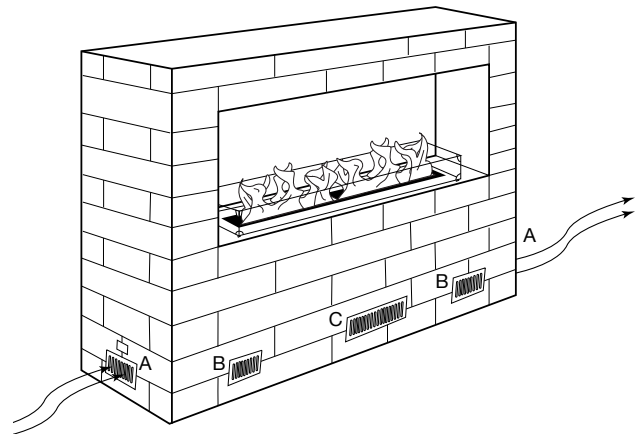

Figure 3 - Cross ventilation example using the Cross Ventilation Kit, VENT-KIT-6x12 (Cat. No. F3535), provided.
9. **CAUTION:** A minimum of 18 square inches of cross ventilation (per side) is required to keep the inside of the enclosure dry. Install the supplied VENT-KIT-6x12 (cat. no. F3535) approximately 3 to 4 inches from the floor centered on each end of the fireplace (See Figure 3, Page 5).
Fireplaces are subjected to many outdoor elements such as rain, snow, wind, heat or cold. A minimum of 18 square inches of cross ventilation (2 sides) is required to keep the components in good working order. Vents should be placed 3-4 inches from bottom of the fireplace and centered. Use *Figure 3* as a guide.